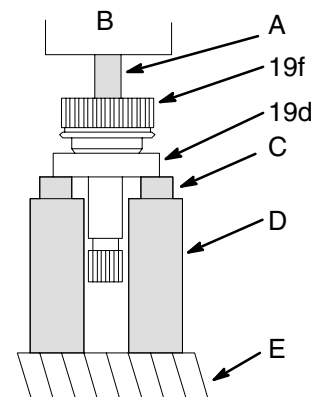

Fig. 20
4. **Using a hydraulic press**, place pieces of steel bar stock on the inner race of the large bearing (19d) and press the shaft through the hub and bearing. Then turn over the shaft and press out the small bearing (19c). See Fig. 20.